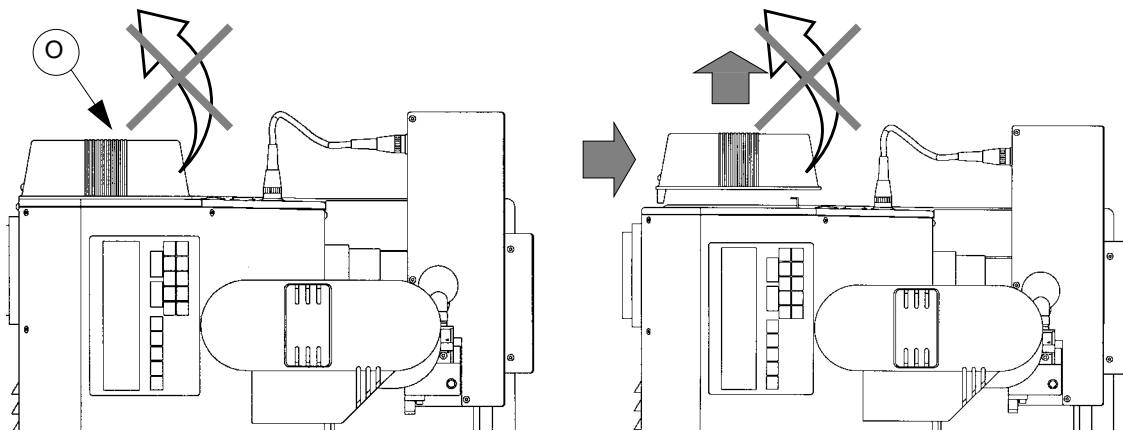

Fig. 28
- 3) remove the cover (O) by pushing in the direction of the arrows (fig. 28).